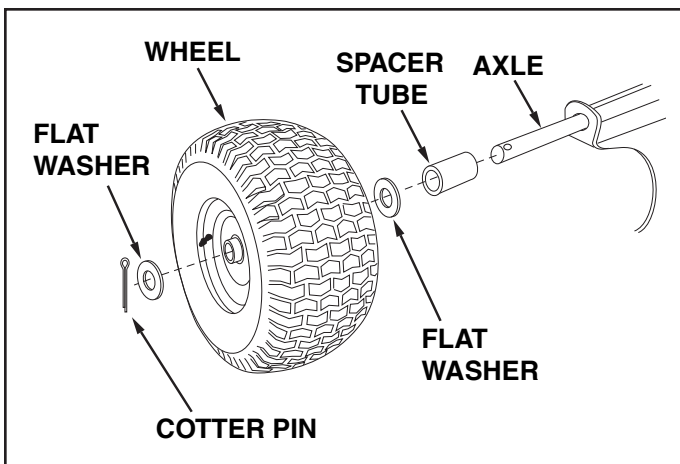

FIGURE 5
8. Assemble a spacer tube, a 1" flat washer, a wheel (valve stem facing out) and another 1" flat washer onto the axle as shown in figure 5. Insert a cotter pin through the axle, spreading the ends. Fill wheel hub with grease. Repeat on other end of axle.